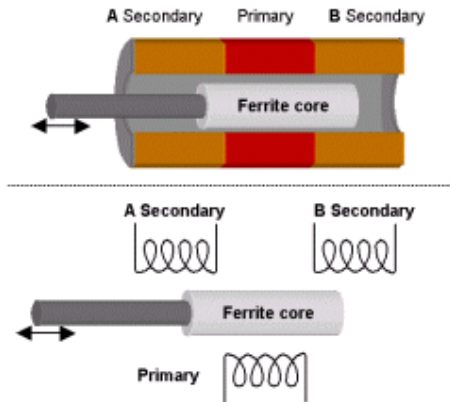
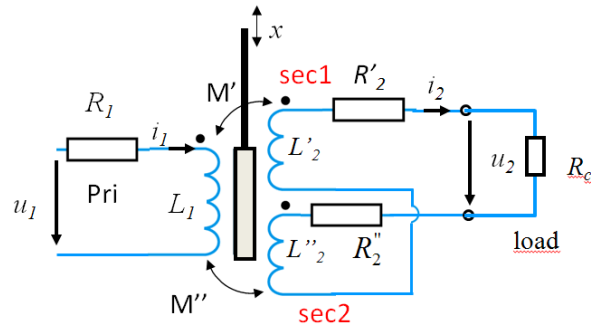

Fig. 4. Schematic representation of an LVDT system.
Fig. 5. Equivalent electrical circuit for an LVDT.
The linear variable differential transformer (LVDT) is a type of an electrical transformer used for measuring linear displacement (position), shown on Fig. 4. It is composed of a mobile ferrite core, placed inside a transformer with the primary and secondary coil arranged in a way shown on Fig. 5.
b) Knowing that  $u_1$  is a sinusoidal voltage with angular frequency  $\omega$ , use the equivalent circuit in Fig. 5., the Kirchhoff's voltage law (KVL) and the Ohm's law for a resistor, inductor and a transformer (coupled inductors) to find the output voltage ( $u_2$ ) as a function of the mutual inductances  $M'(x)$  and  $M''(x)$ . To start, write down the equations for voltage drops on the left and right-hand sides of the circuit. The voltage drop over the inductor 1 (primary inductor on Fig 4) due to its self-inductance  $L_1$  is given by  $L_1 \frac{di_1}{dt}$ . Because of the coupling with the secondary inductors A and B, there are additional voltage drops induced on the primary inductor due to the AC current flowing in the secondary circuit. The voltage drop induced on inductor 1 due to current  $i_2$  flowing through the inductor  $L_2'$  is given by  $M' \frac{di_2}{dt}$ .